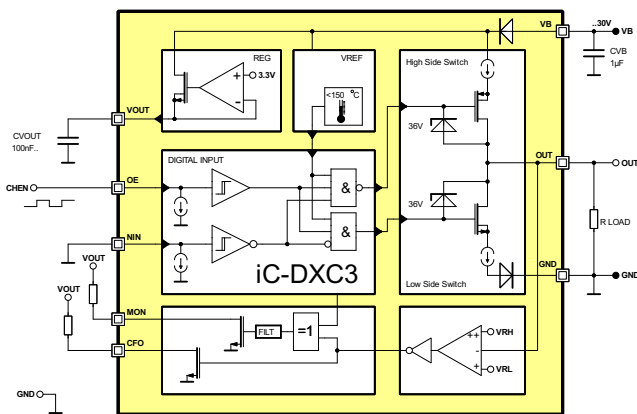
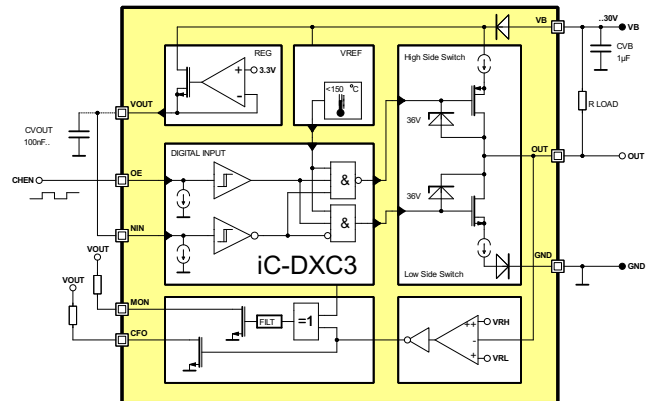
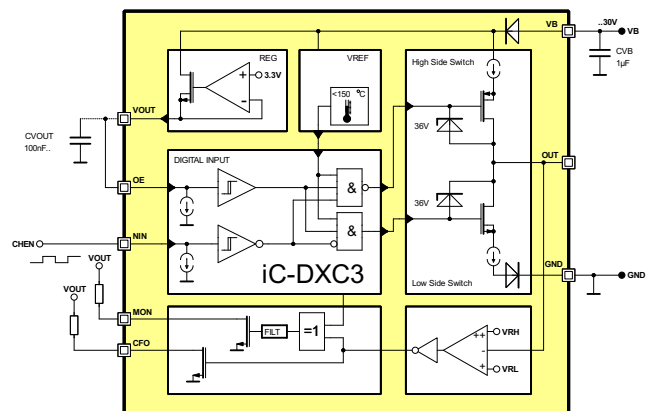

Figure 4: Configuration as High-Side (PNP-Switch)
Figure 5: Configuration as Low-Side (NPN-Switch)
Figure 6: Configuration as Pushpull
The iC-DXC3 can be operated in high-side (PNP), low-side (NPN) and push-pull (PP) switch mode. Figure 4 shows the high-side operation where NIN pin must be kept low and the OE pin controls the switch. Figure 5 shows the low-side operation where NIN pin must be kept high and the OE pin controls the switch. Figure 6 shows the push-pull operation where OE pin must be kept high and the NIN pin controls the switch. If the OUT signal differs from what declared in tables 4, 5 and 6 (due to external forcing) for more than 14  $\mu\text{s}$  (cf. Electrical Characteristics No. 510), this event will be signalled by a low level at MON output.
Table 4: Output Function table Fig. 4. High-side mode (PNP-Switch) with external pull-down.
Table 5: Output Function table Fig. 5. Low-side mode (NPN-Switch) with external pull-up.
Table 6: Output Function table Fig. 6. Push-Pull mode